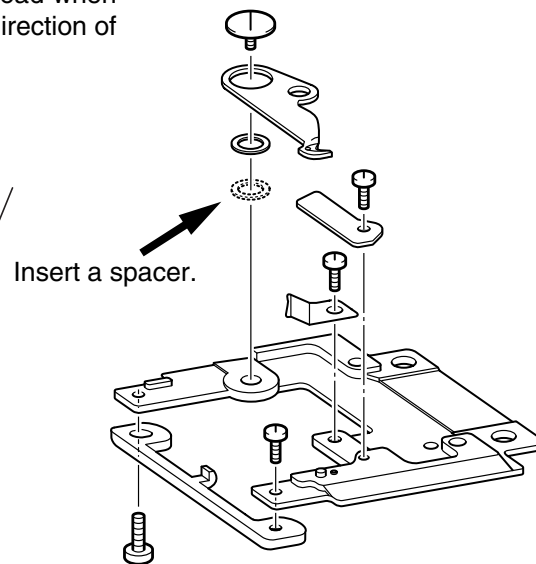

Fig.2
2. When the engagement load is not within the specifications, insert a spacer below the collar of the movable knife as shown in Figure 2.